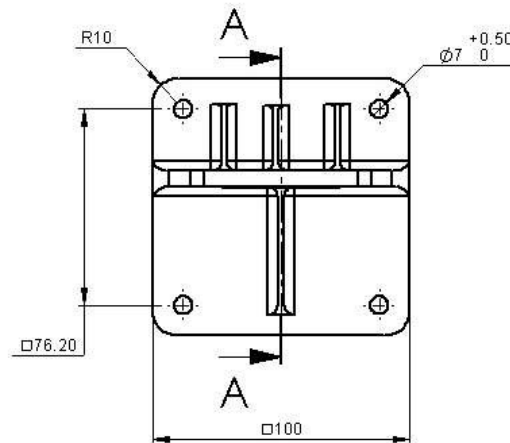

Figure 1 - Tilt Mount Base - Rear View
- a) Place the tilt mount (Fig. 1) in its designated location and secure it with four screws through four 0.28" (7mm) diameter holes. There are four captive screws with spring washers in the tilt mount.